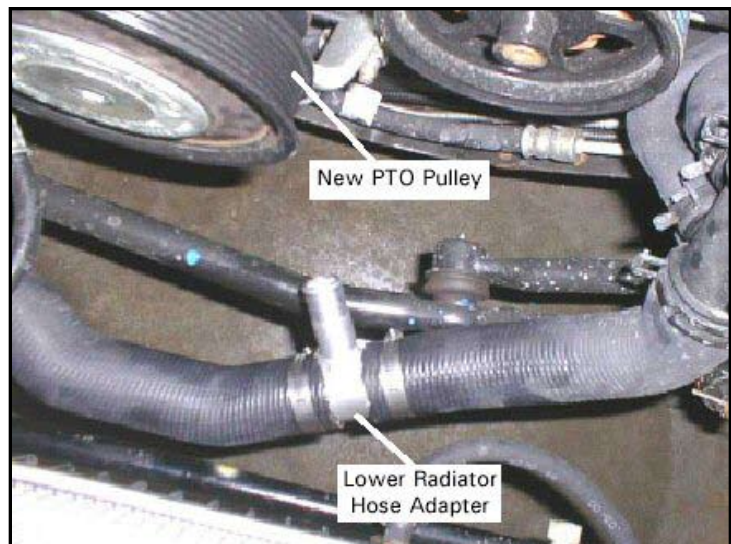

Figure 8. Install Adapter Tee
Make sure to leave enough material to epoxy new breather adapter barb. Lightly sand the outside of the breather nipple and the inside of the new PVC elbow (included in kit). Use J-B weld® or equivalent epoxy to join the two pieces together. Install the modified elbow so that it points towards the driver's side of the vehicle. See Figure 7 and Figure 8. Re-attach the hose after the epoxy cures.
3. Cut lower radiator hose and install aluminum adapter tee. See Figure 8.